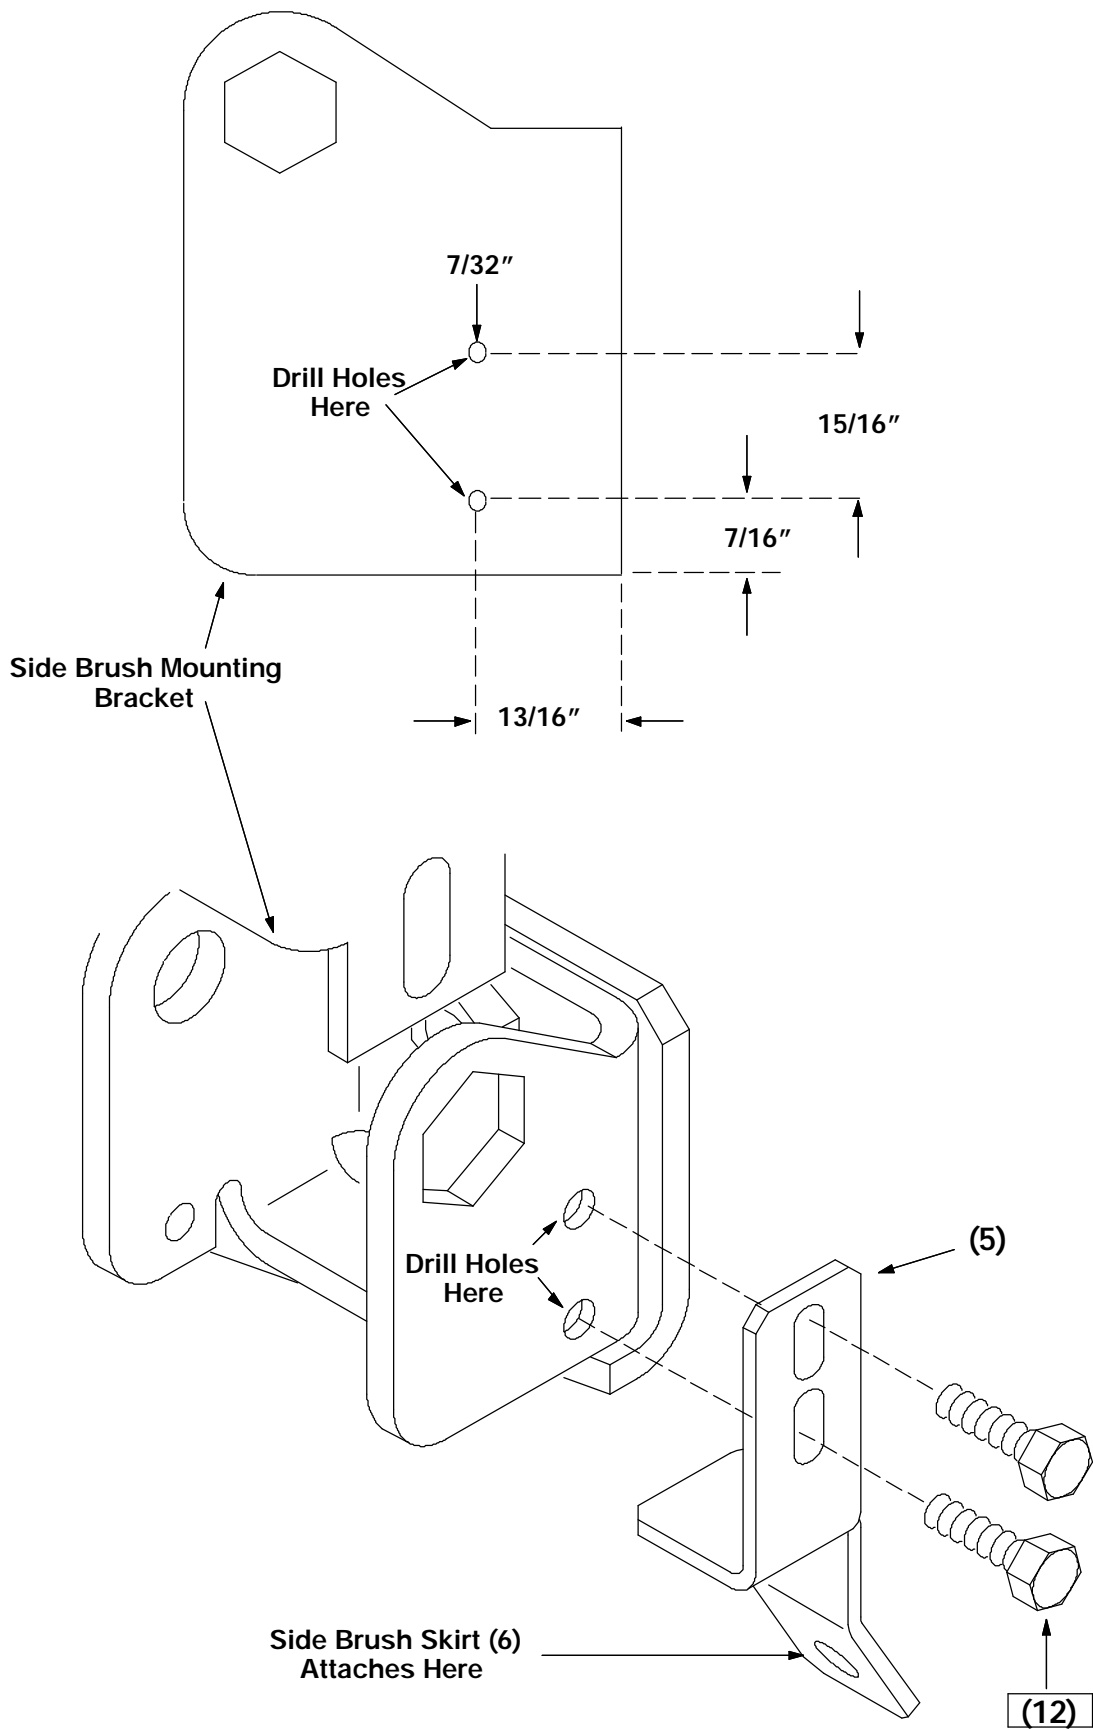

FIG. 1 - Side View - Hole Locations for Side Brush Mounting Bracket
(Refer to FIG. 1, 2, 3, 4, 5, and 6)
2. Drill holes in side brush mounting bracket according to dimensions in FIG. 1.